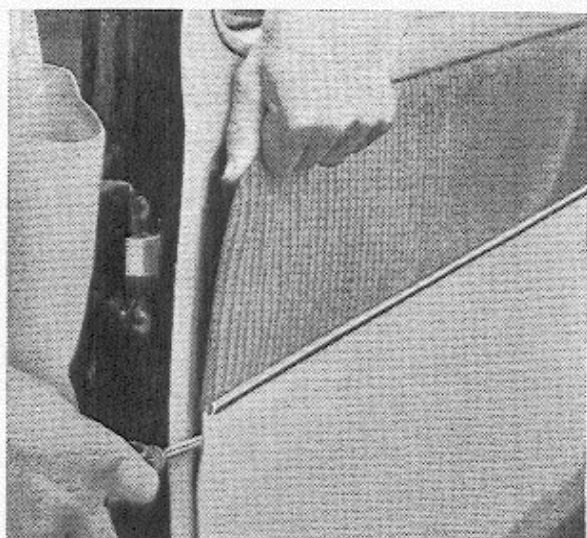

Fig. 27. Removing the door upholstery
2. Remove the door upholstery by inserting a screwdriver under the edge and bending outwards until the upholstery loosens. This is shown in Fig. 27.
2. Remove the door upholstery. Use a screwdriver which is inserted under the cloth and then bent outwards as shown in Fig. 27.
3. Remove the door upholstery. Use a screwdriver which is inserted under the upholstery and bent outwards as shown in Fig. 27.